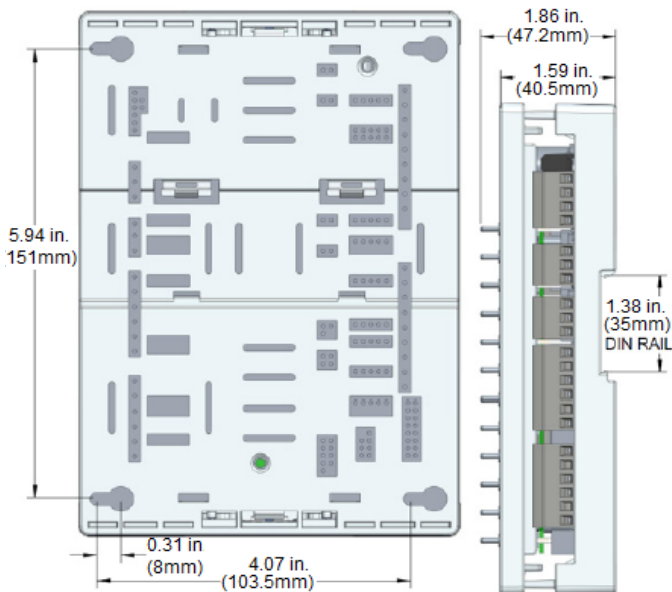

Fig. 2 AXM controller dimensions in inches (mm).
- Use the mounting holes in the back cover to attach it to the panel with appropriate fasteners (not included). See Fig. 2.